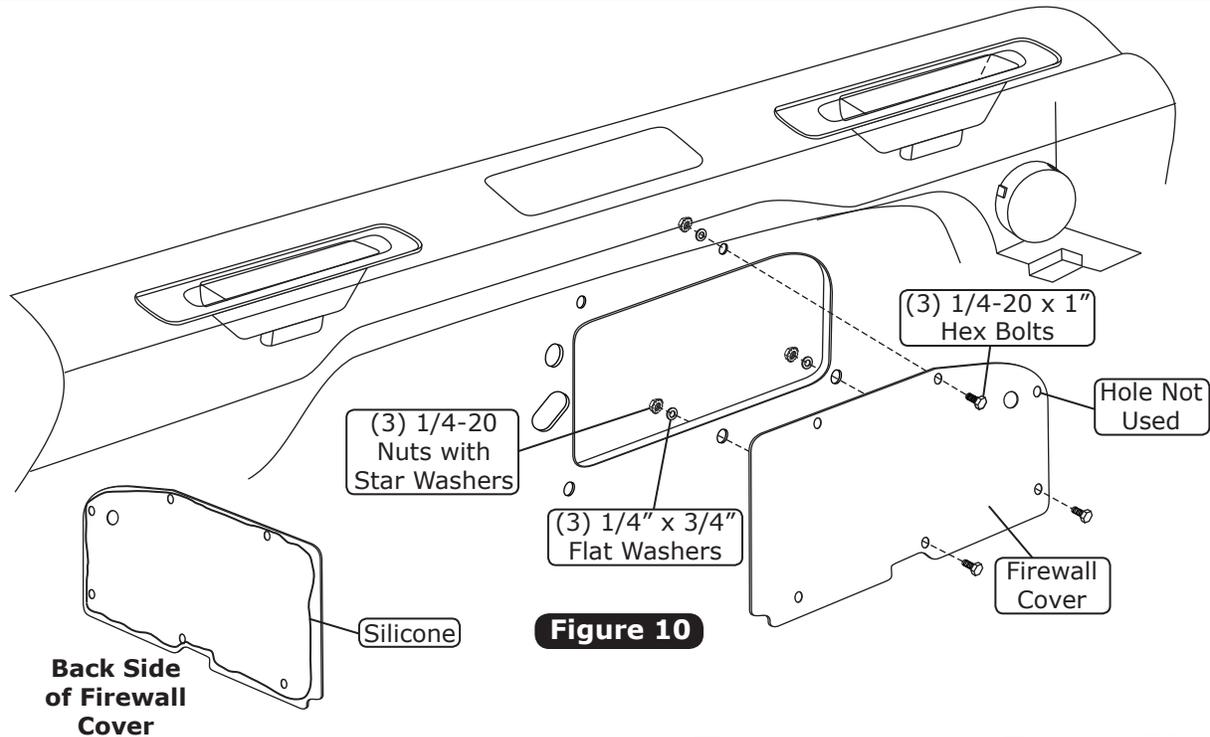

Figure 10
1. Apply a 1/4" bead of silicone around the back side of the firewall cover as shown in Figure 10, below.
2. From inside the car, install the firewall cover onto the firewall using (3) 1/4-20 x 1" hex bolts, (3) flat washers, and (3) 1/4-20 nuts with star washers as shown in Figure 10, below.